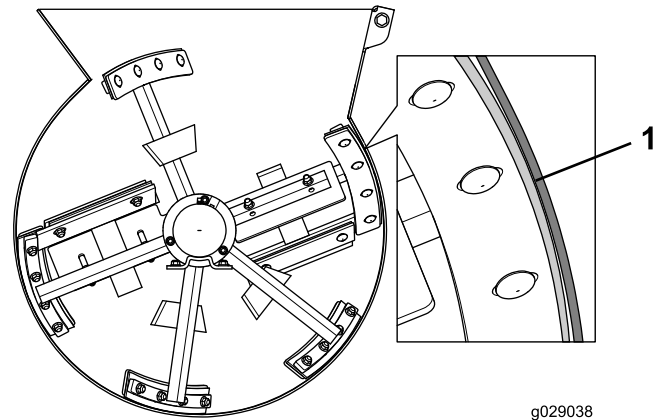

Figure 65
5. Adjust the position of the wiper so that the wiper lightly contacts the drum across the length of the wiper (Figure 65).